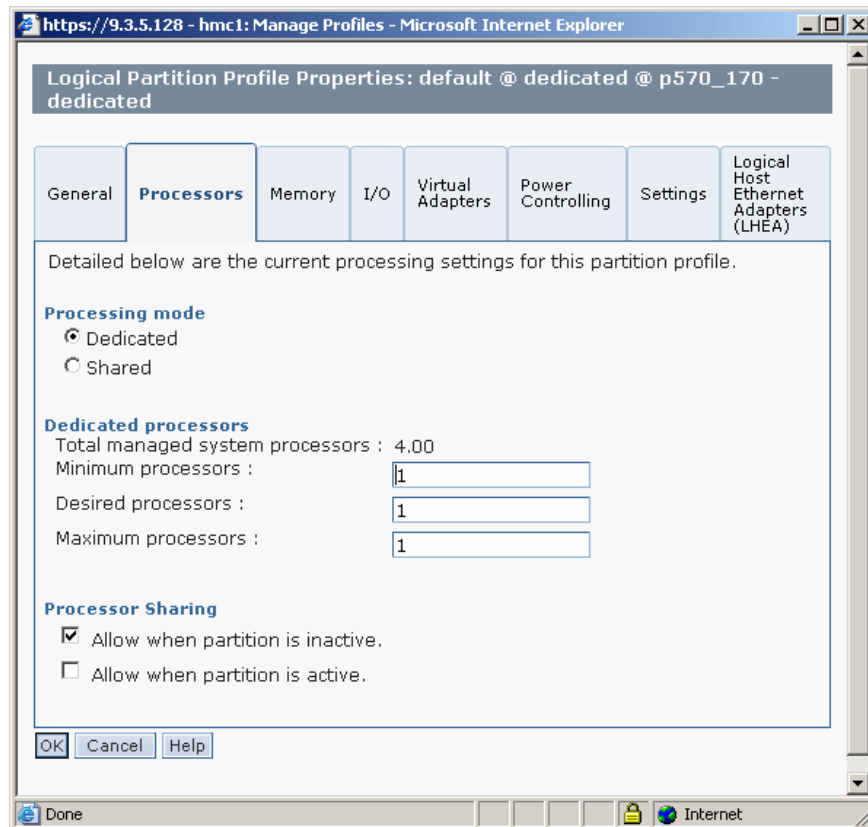

Figure 13-15 Setting the Processor Sharing options
4. The Logical Partition Profile Properties is opened. Open the Processors tab as shown in Figure 13-15 where the Processor Sharing options can be set.
Tip: You can get to the dialog shown in Figure 13-15 while a partition is running by clicking **LPAR properties** to change this dynamically.